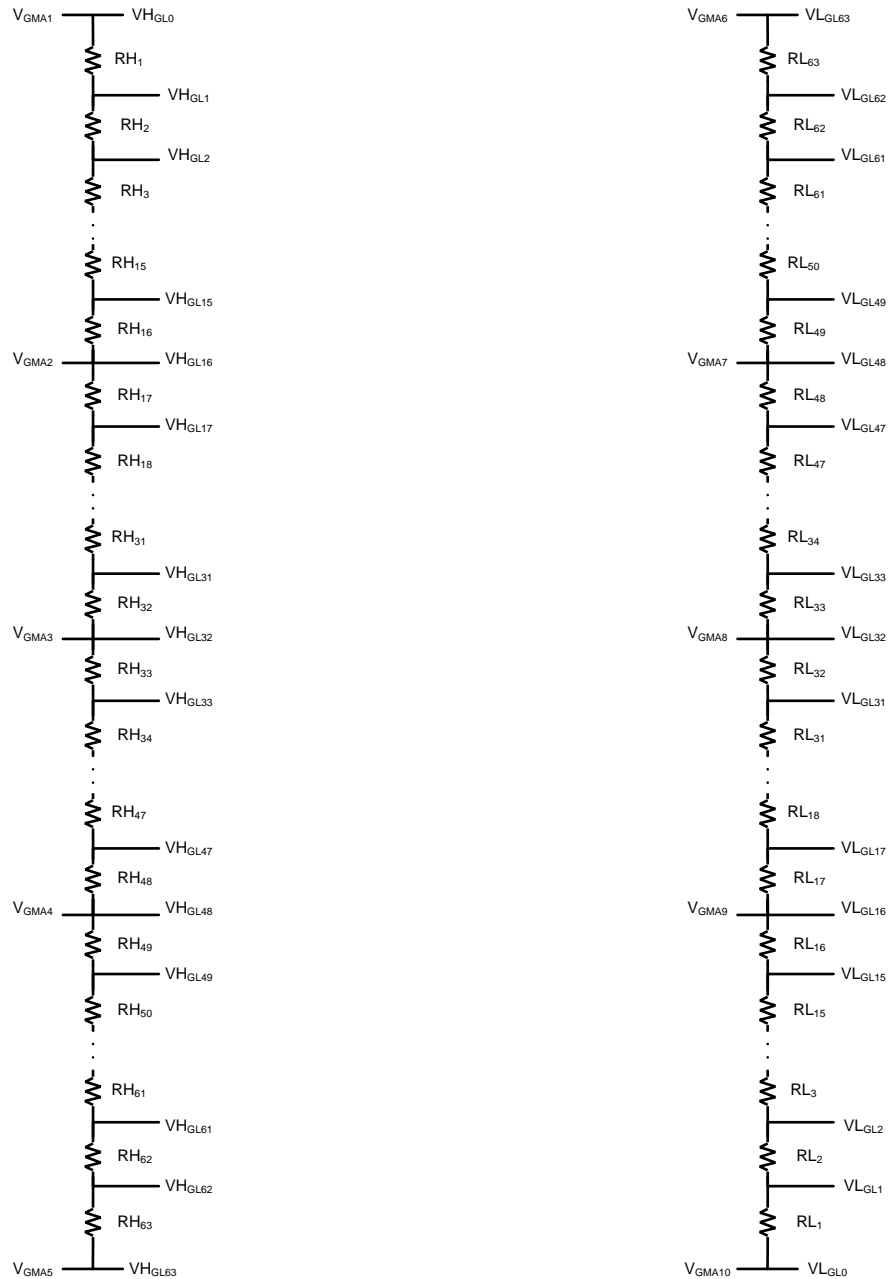

Figure 4. FPD33680F R-DAC Configuration
The FPD33680 R-DAC resistance curve has been carefully designed to accurately match the natural, inverse gamma of a twisted nematic (TN) display with a 2.2 gamma transfer characteristic. Additional, custom gamma curves can be requested through your National Semiconductor representative. A typical TN display, when operated with the FPD33680 drivers will produce a luminance with grayscale characteristic typical of CRT monitors. The resistor values for the R-DAC are shown in Table 5. The individual R-DAC characteristics can be found in Figure 4, Table 3, and Table 4.